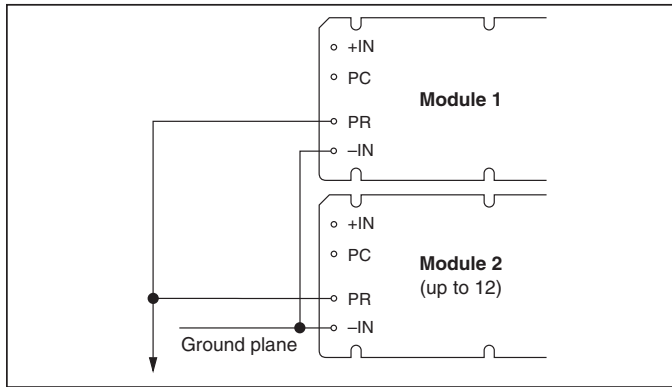

Figure 9 — DC coupled single-wire interface.
**DC coupled single-wire interface.** All PR pins are directly connected to one another. This interface supports current sharing but is not fault tolerant. Minus In pins must be tied to the same electric potential. See Figure 9.